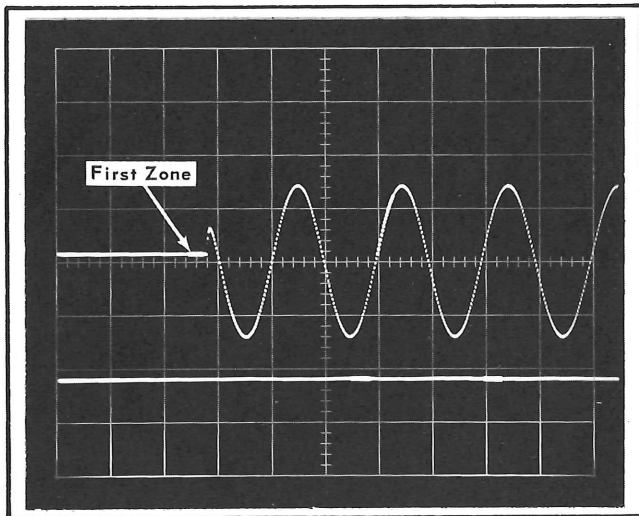

Fig. 8. Waveform for adjustment of Chopper Drive control R13.
e. Check that the portion of the sweep preceding and during the first reference zone is chopped (see Fig. 8).